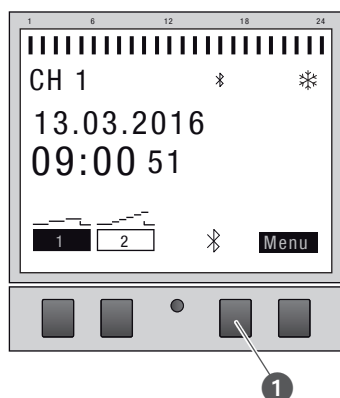

Fig. 27: Establishing a Bluetooth connection to the DIN-rail timer
1. Press the Bluetooth button (Fig. 27/①) on the DIN-rail timer.